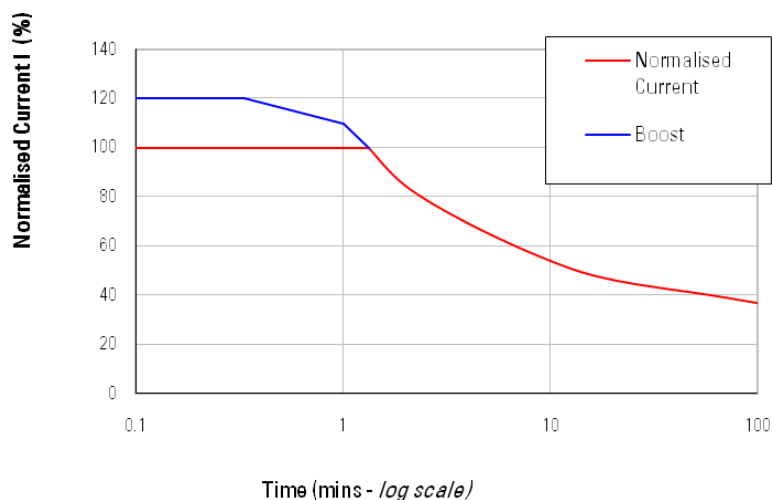

Figure 2 – Output current available for various durations of sustained current demand
Output current:	Reduced automatically from peak to continuous rating depending on the time a peak load is applied to the controller (see Figure 2 on page 17). Reduced automatically if operated outside normal temperature range.
*2 minute rating (lower ratings are possible for longer periods; see example in Figure 2)